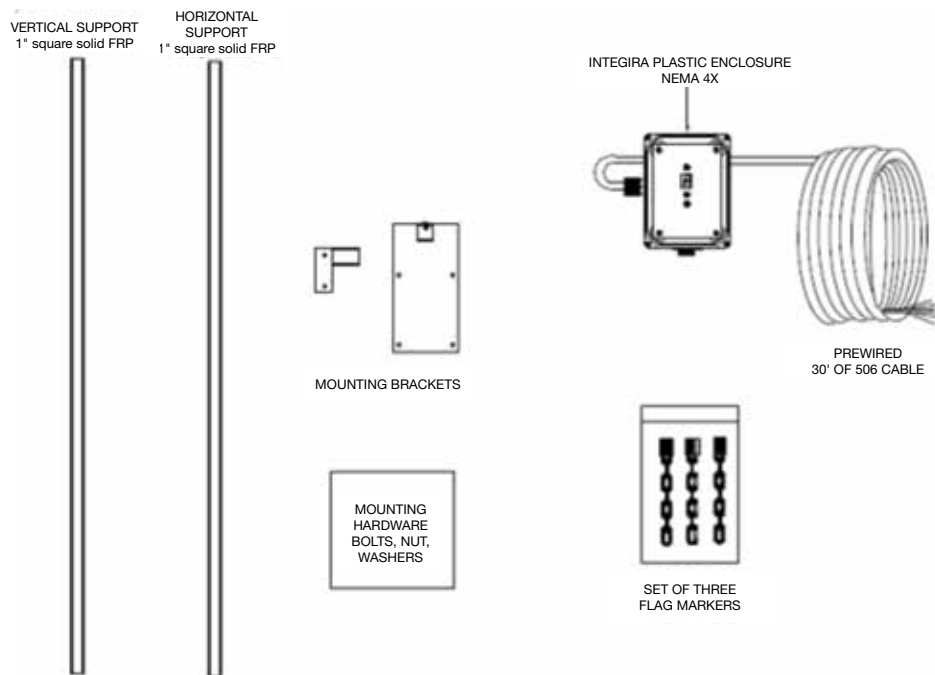

FIGURE 30
1. Gather and account for all installation components. These components are detailed in Figure 30.